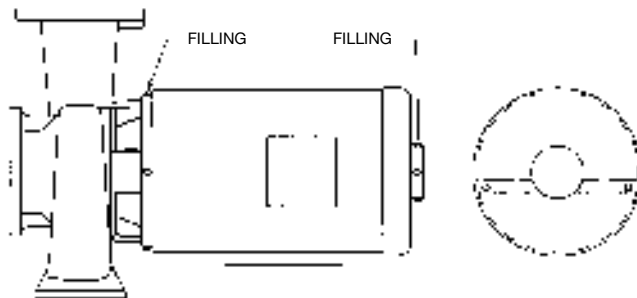

Fig. 4 – Lubrication Points
Regrease bearings as indicated by motor manufacturer's instructions. Normally greasing is required every two (2) years or 3,000 hours of operation. On motors, grease is usually introduced with a grease gun through a grease fitting (Fig. 4).